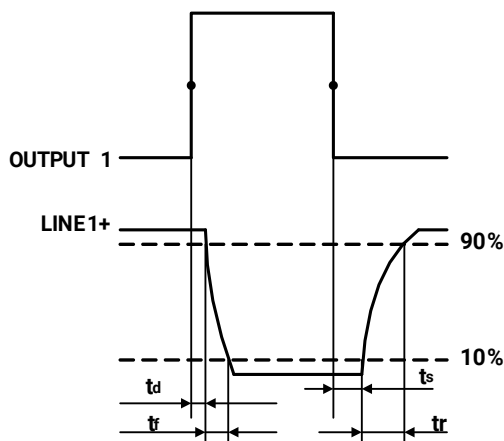

Figure 7-6 Parameter of opto-isolated output circuit
- Rising time delay = $t_d + t_f$: $<50\mu s$ ($0^\circ C \sim 45^\circ C$) (parameter description is shown in Figure 7-6)
- Falling time delay = $t_s + t_r$: $<50\mu s$ ($0^\circ C \sim 45^\circ C$) (parameter description is shown in Figure 7-6)
- Rising time delay = t_f+t_d : $<20\mu\text{s}$ ($0^{\circ}\text{C}\sim 45^{\circ}\text{C}$) (parameter description as shown in Figure 7-6)
- Falling time delay = t_r+t_s : $<20\mu\text{s}$ ($0^{\circ}\text{C}\sim 45^{\circ}\text{C}$) (parameter description as shown in Figure 7-6)